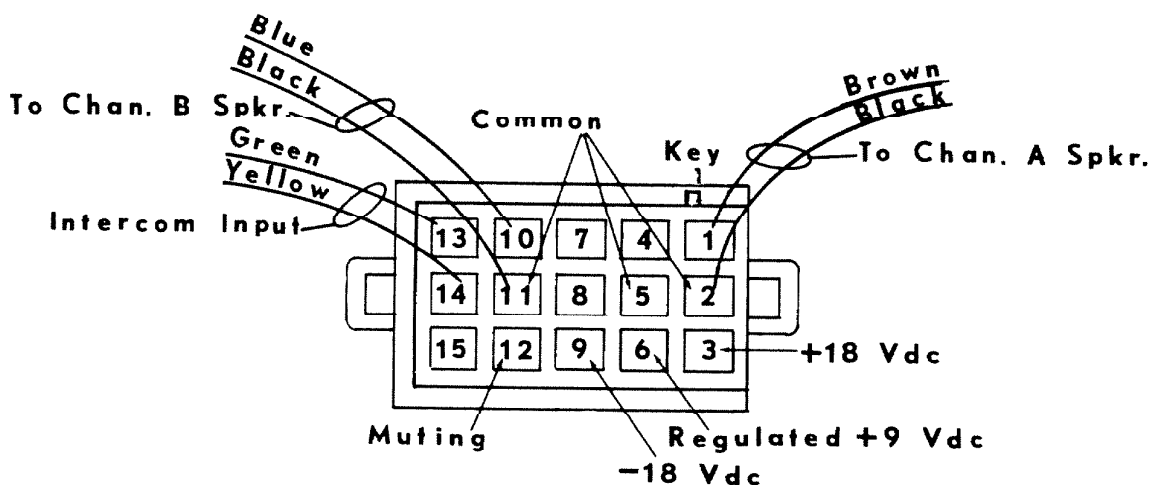

Fig. 1.39 — P8A (Wire Side View) WIRING AND VOLTAGE POINTS, CONNECTED TO RECEIVER
5. Connect speakers (8 to 45 ohm) to channel A and B speaker leads. (Fig. 1.39)
6. Connect speaker to Intercom Input leads. (for checking intercom operation of receiver unit. Volume may have to be reduced to prevent feedback from channel A speaker through the intercom speaker. (Fig. 1.39)
- Check muting operation by connecting wire between -18 Vdc terminal 3 and muting terminal 12 of P8A. (Fig. 1.39) Entertainment program should be silenced in both channel A and B speakers, and at the same time speaking into intercom test speaker should result in
6. Measure: +18 Vdc; Regulated +9 Vdc; and -18 Vdc between terminals 3, 6 and 9 respectively and common terminal 5. (Fig. 1.39)